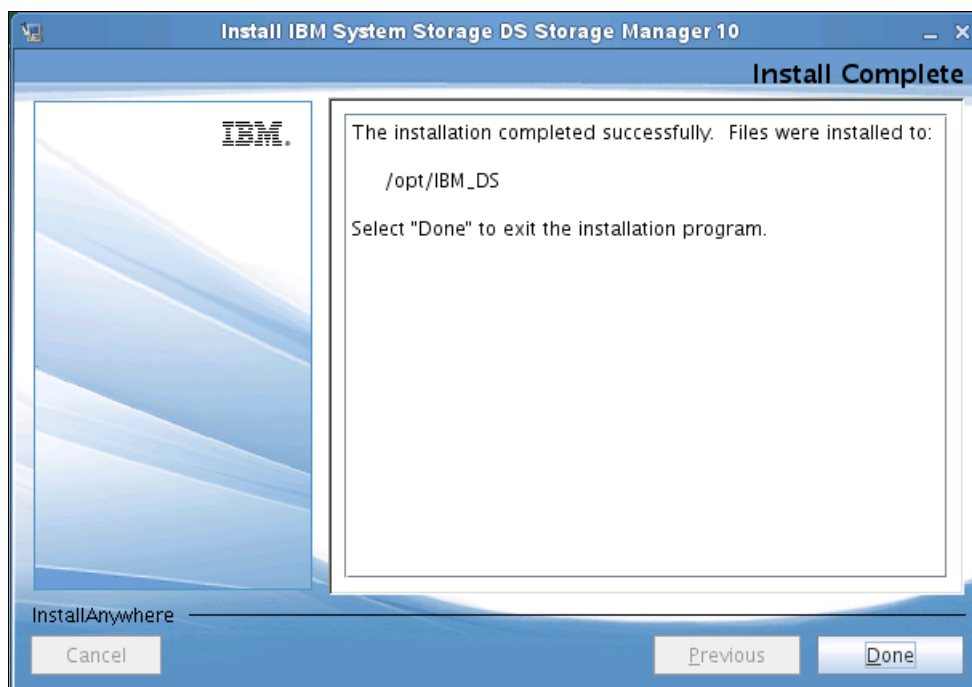

Figure 4-21 Install Complete
10. After a successful installation, a window similar to Figure 4-21 opens. If there are no errors, click **Done** to exit.